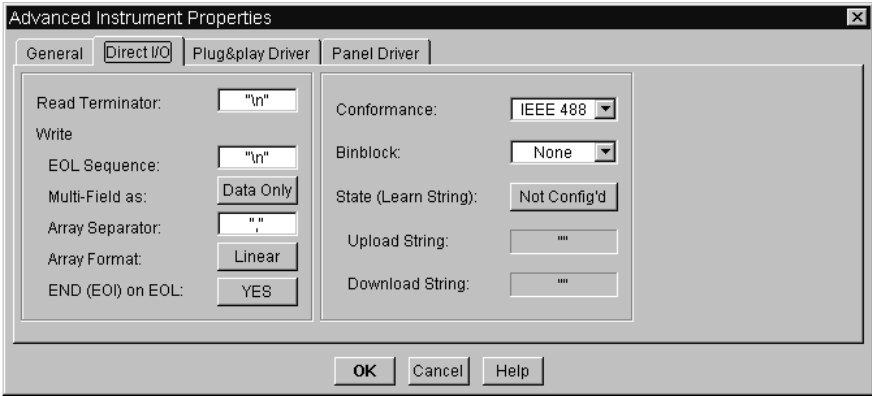

Figure 91 The Direct I/O Configuration Folder
- 3 Click on **Advanced**. Select the Direct I/O folder as shown in Figure 91. Look through the options available, then click **OK** to return to Instrument Properties, then **OK** again to return to the Instrument Manager.